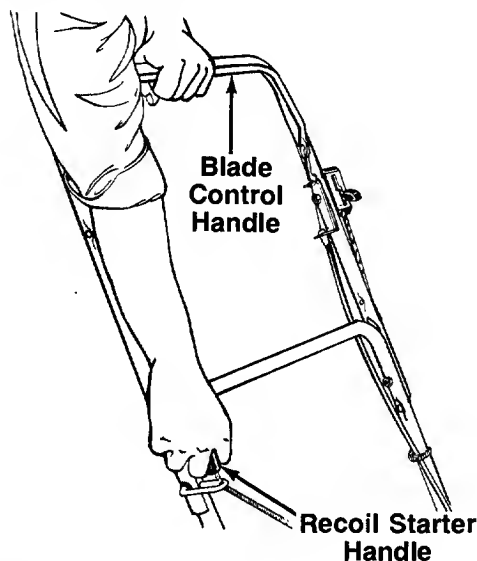

FIGURE 13.
3. Standing behind the unit, depress the blade control handle and hold it against the upper handle as shown in figure 13.